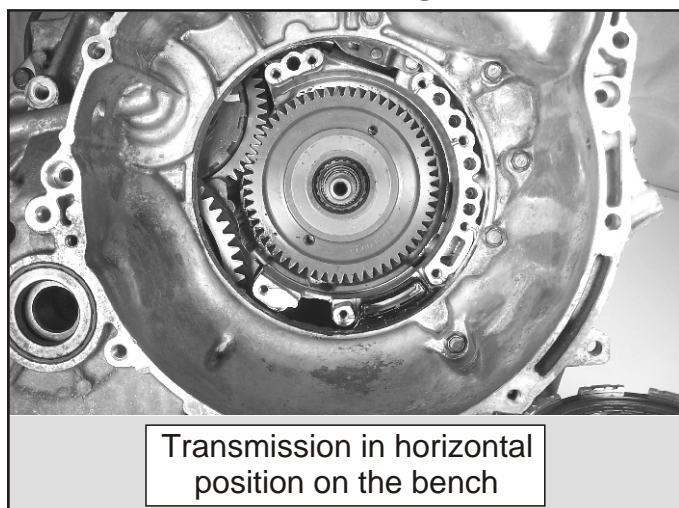

Figure 290
- 214. Stand the transmission horizontally on the bench as shown in Figure 290.